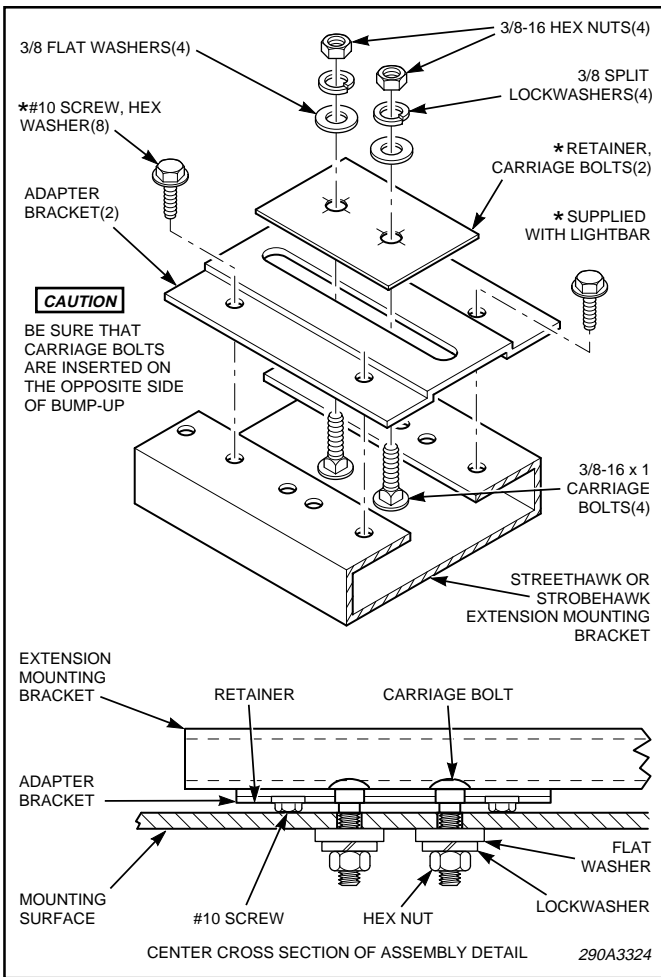

Figure 1.
B. Assemble two 3/8-16 carriage bolts to each adapter bracket with a bolt retainer as shown in figure 1.
C. See figure 1. Assemble an adapter bracket assembly to the extension mounting bracket on each end of the light bar using eight #10 hex head screws (four for each bracket). We recommend that the adapter bracket assemblies be fastened to the appropriate holes, provided in the extension mounting brackets, that best suits your installation. Tighten securely.
E. If necessary, route the cable through the cable routing hole. See figure 1. Secure the light assembly to the mounting surface using 3/8-16 hex nuts, flat washers, and lockwashers.